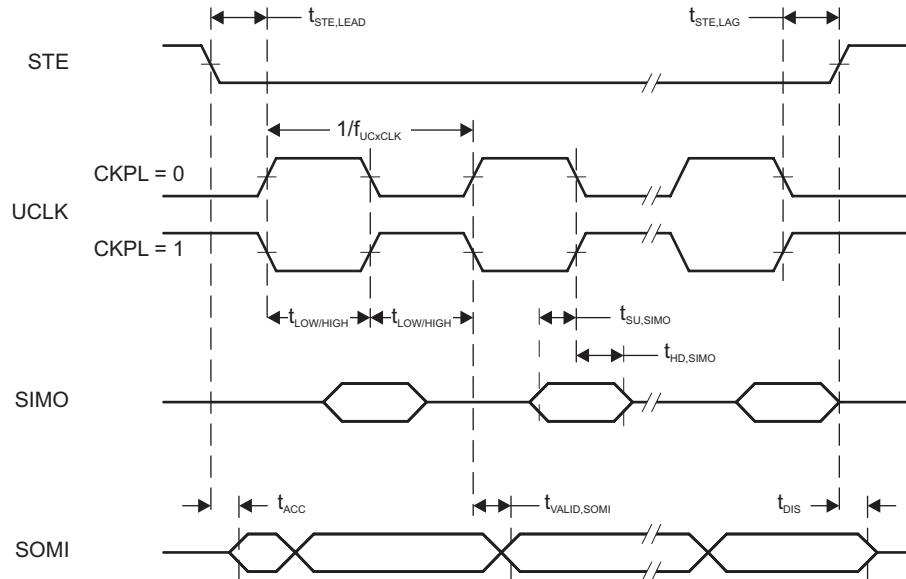
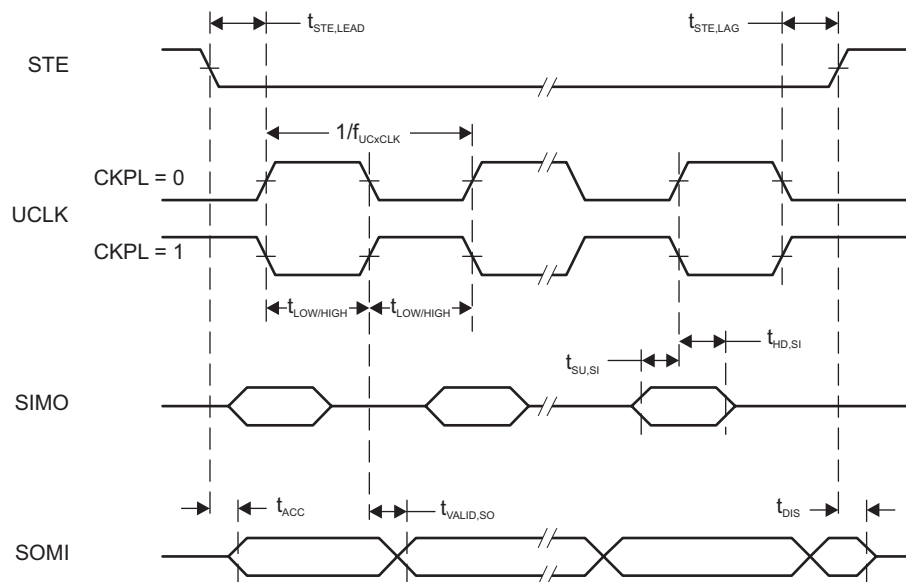

Figure 5-25. SPI Slave Mode, CKPH = 0
Figure 5-26. SPI Slave Mode, CKPH = 1
over recommended ranges of supply voltage and operating free-air temperature (unless otherwise noted)(1) (see Figure 5-25 and Figure 5-26)
(2) Specifies the time to drive the next valid data to the SOMI output after the output changing UCLK clock edge. See the timing diagrams in Figure 5-25 and Figure 5-26.
(3) Specifies how long data on the SOMI output is valid after the output changing UCLK clock edge. See the timing diagrams in Figure 5-25 and Figure 5-26.